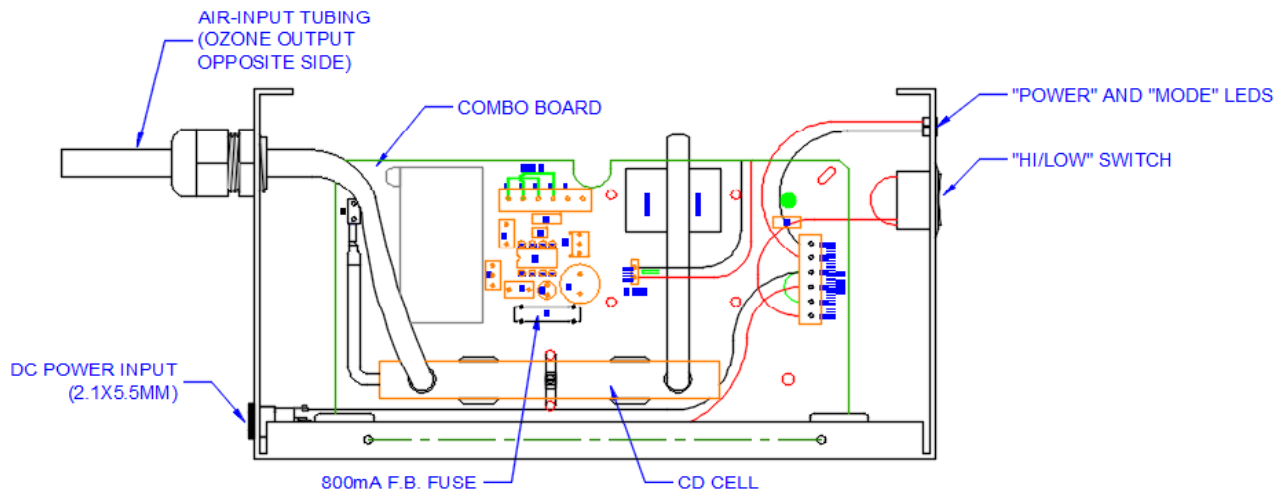

Figure 3: PCS PRO component view
10.0 Ozone Cell Replacement (Refer to Figure 3)